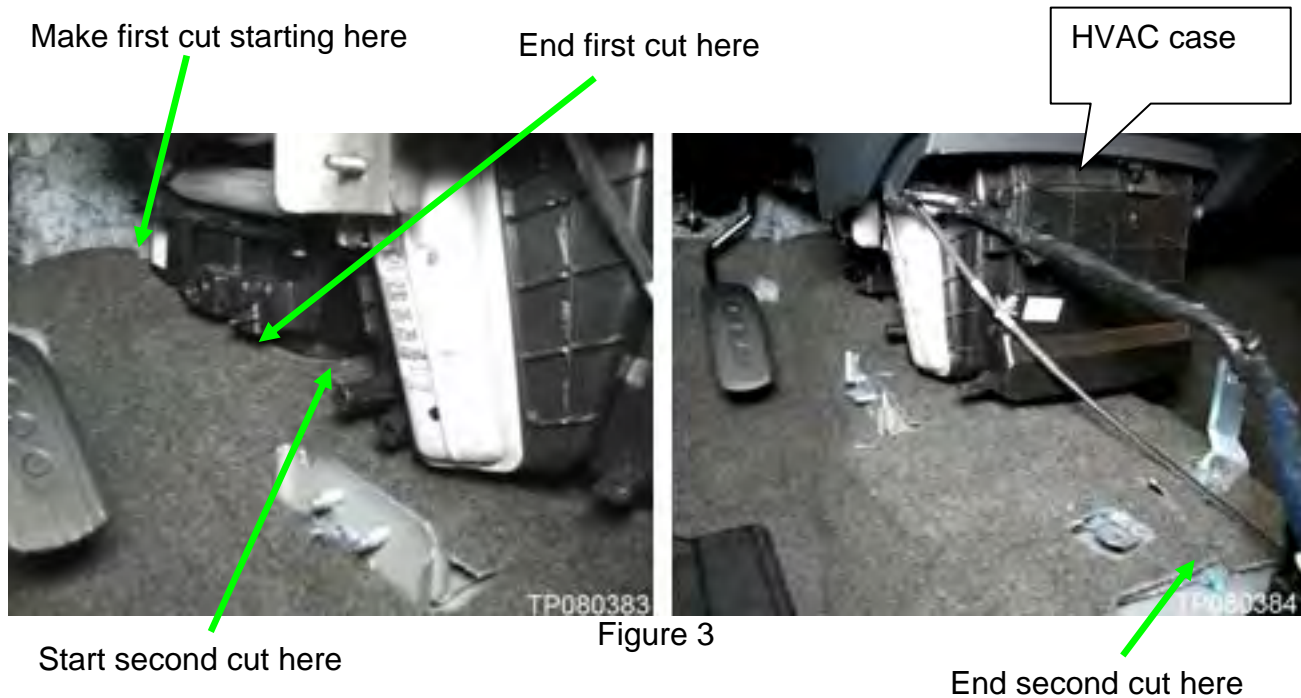

Figure 3
6. Cut the carpet from the front edge near the bulkhead to the drain cup opening in the carpet, then from the drain cup opening to the shifter. See Figure 3.